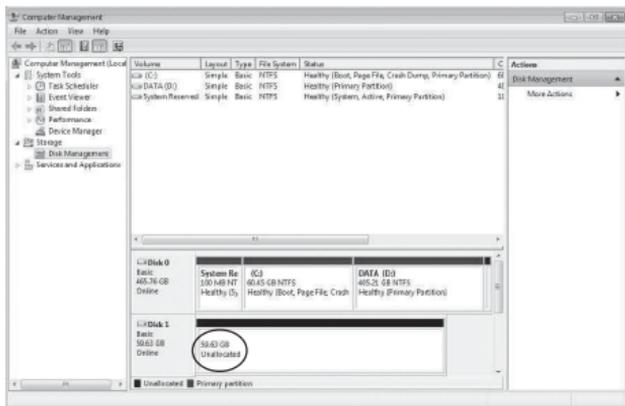

Figure 4
3. Click **Disk Management**. You will see your hard disk drive shown as **Unallocated**. Disk number may vary, see **Figure 4**.